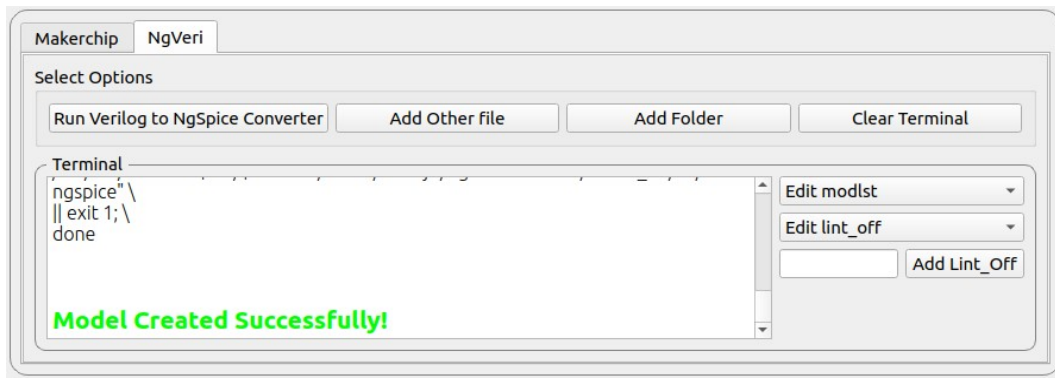

Figure 11.24: NgVeri Model created
5. When the **Model Created Successfully** message appears in the terminal as shown in green color in Fig. 11.24, it indicates that the Ngspice model is created.